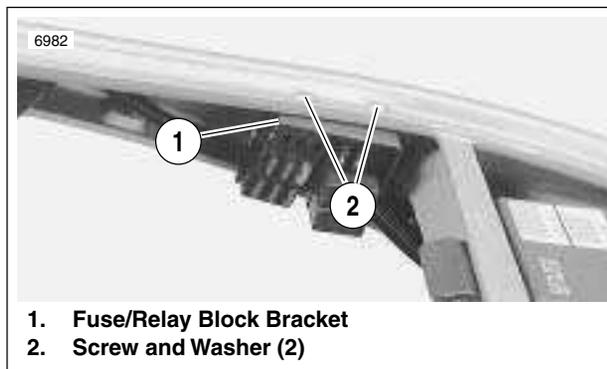

Figure 2-129. Fuse Block
4. See Figure 2-129. Remove fuse/relay block bracket fasteners (2). Remove bracket (1) containing fuse and relay blocks.
6. Attach bracket for ignition module (17) with nuts (2) and washers (8). Install module with two bolts and star washers.
7. Fully tighten four tail section bolts (20) to 9-11 ft-lbs (12-15 Nm).
9. See Figure 2-129. Install fuse/relay bracket with two screws and washers.